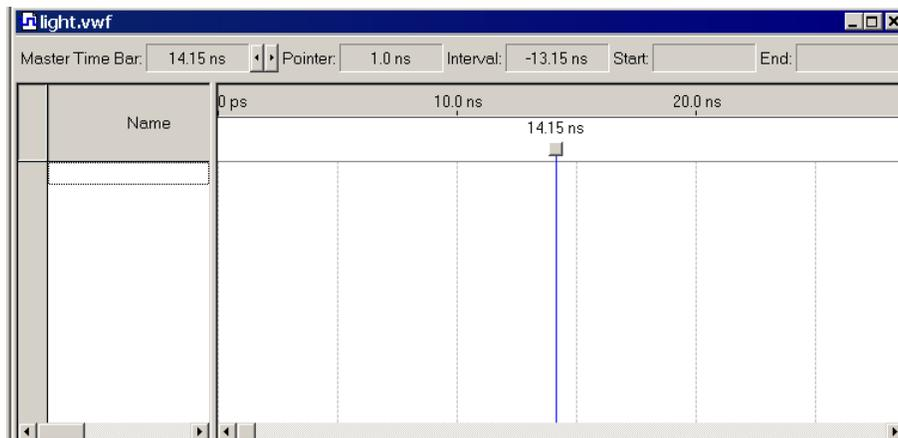
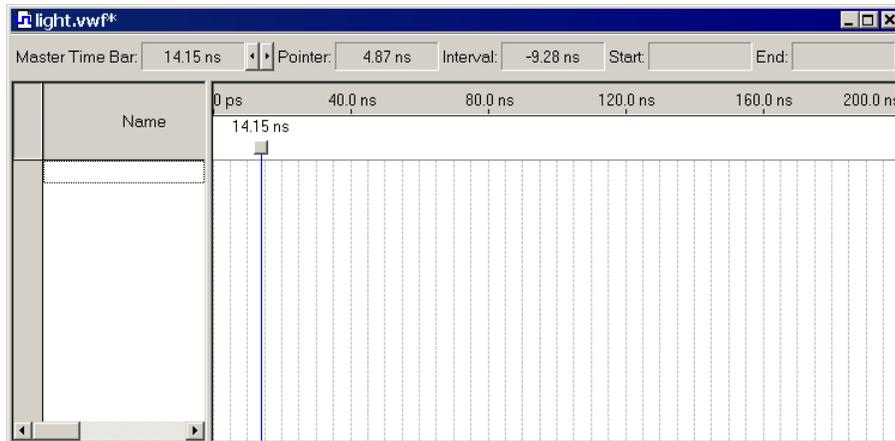

Figure 34. The Waveform Editor window.
Figure 35. The augmented Waveform Editor window.
2. The Waveform Editor window is depicted in Figure 34. Save the file under the name *light.vwf*; note that this changes the name in the displayed window. Set the desired simulation to run from 0 to 200 ns by selecting **Edit > End Time** and entering 200 ns in the dialog box that pops up. Selecting **View > Fit in Window** displays the entire simulation range of 0 to 200 ns in the window, as shown in Figure 35. You may wish to resize the window to its maximum size.